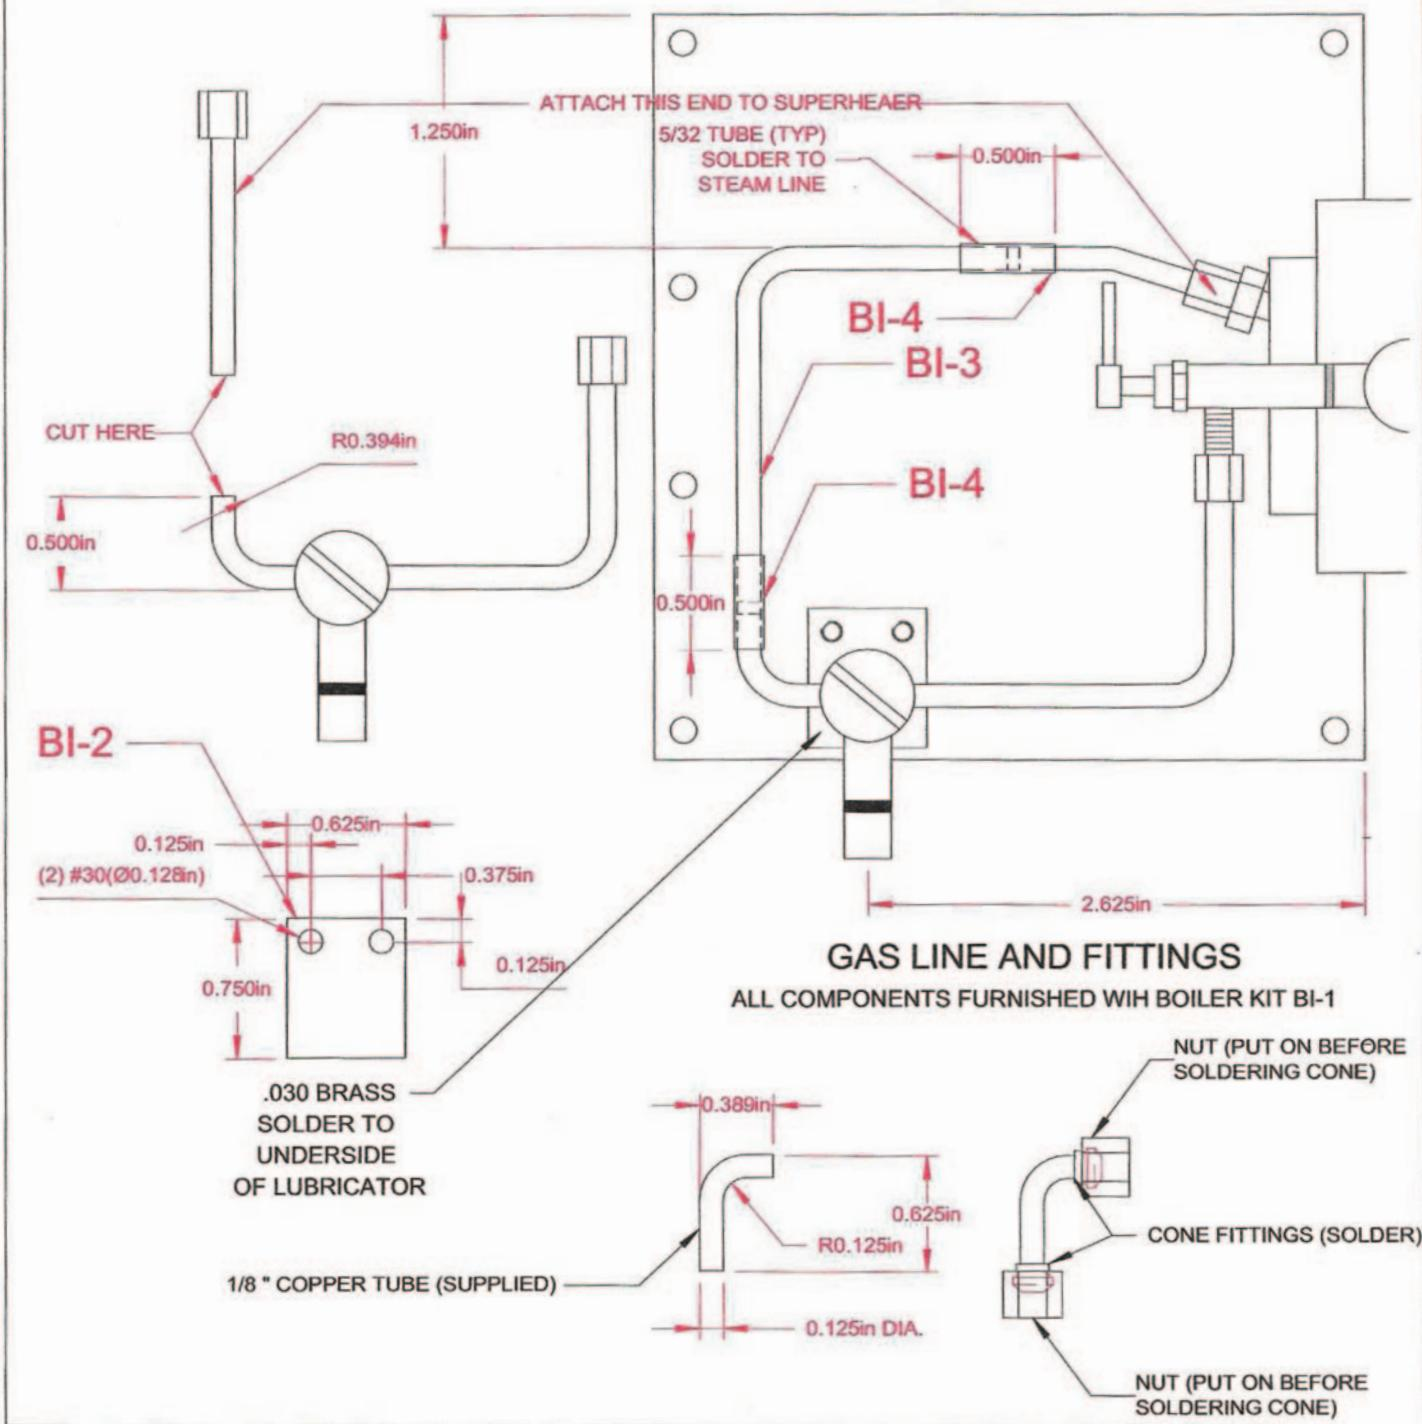

Figure 4-3
**Photos 4-4, 4-5 and 4-6** show the mounting of the steam line and lubricator to the superheater. Since there can easily be dimensional variations in the building of this model, this plumbing must be necessarily fitted in place, using **Figure 4-3** as a guide.
The steam lines from the throttle to the lubricator and lubricator to the superheater must be bent and modified as shown in **Figure 4-3** and in **Photos 4-4, 4-5** and **4-6**. The outlet line from the lubricator is cut and bent and an additional piece of one-eighth inch copper tube spliced (soldered) in as shown in **Figure 4-3** using 5/32-inch copper tube sleeves. A mounting plate is fabricated from 0.030-inch brass and soldered to the bottom of the lubricator, also shown in **Figure 4-3**. Remove both the top cap and drain plug before soldering to avoid damage to the seals. Note the location dimension for the steam line piping in relation to the left edge of the cab platform, as it must clear the gas tank which is mounted next to it. Also note the location dimension for the lubricator. This must be located as shown to line up with the cutout in the cab for
That was the easy one. The gas line is trickier to do because of the close proximity of the gas valve or regulator to the burner itself. **Photos 4-7** and **4-8** show the completed installation and **Photo 4-9** shows the 90 degree tube fitting assembly that must be made to join the gas regulator to the burner which is detailed in **Figure 4-3**.